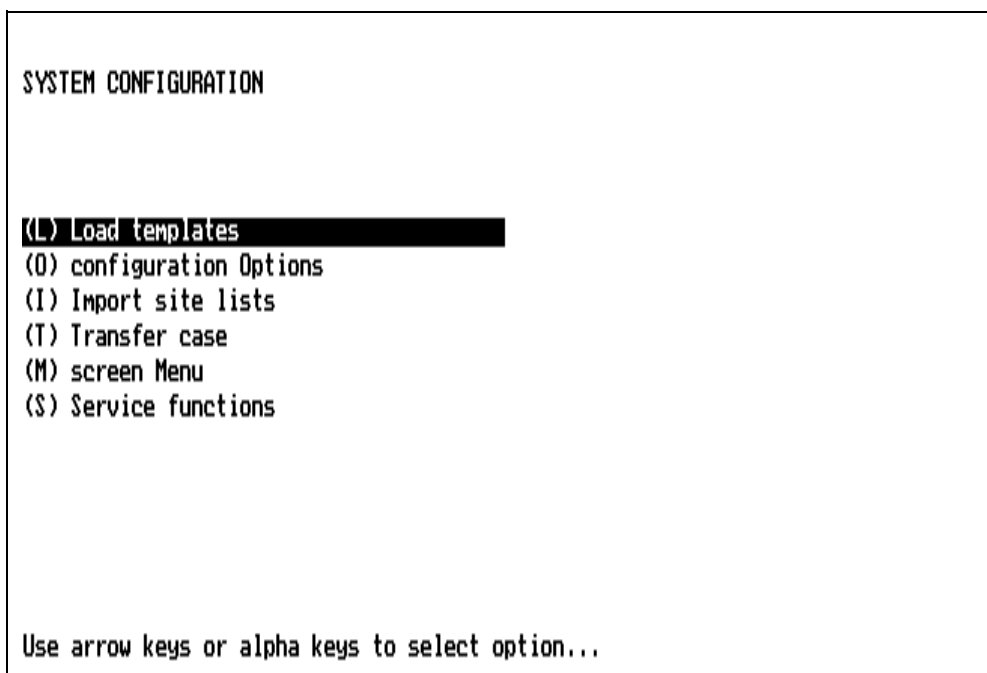

Figure 14A: SYSTEM CONFIGURATION SCREEN
- 3.A When the System Configuration screen is displayed, the cursor will appear in the first row as shown in Figure 14A. Press the S key to select Service functions, or highlight the choice and press the ENTER key or the Datagrip trigger.